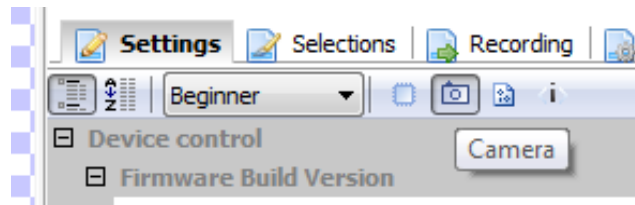

Figure 3-4 Access the camera properties
- To change the camera properties, press the <Camera> icon (see Figure 3-4).
- When using the camera for the first time, use the Beginner mode (see Figure 3-4).